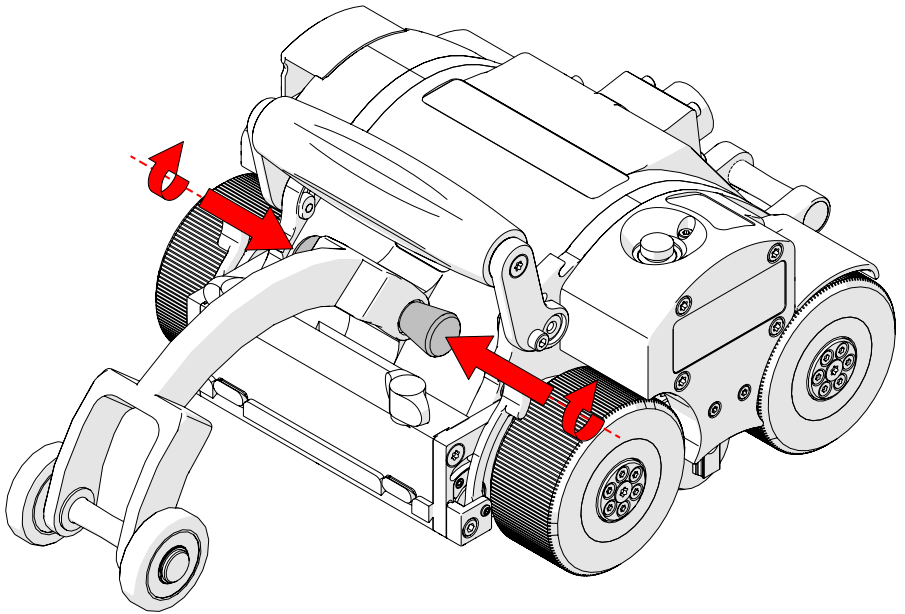

Fig. 69 - Twist pins to unlatch and connect
3. Twist the pins until they unlatch and extend into the connection holes of the MOTIX (Fig. 69).